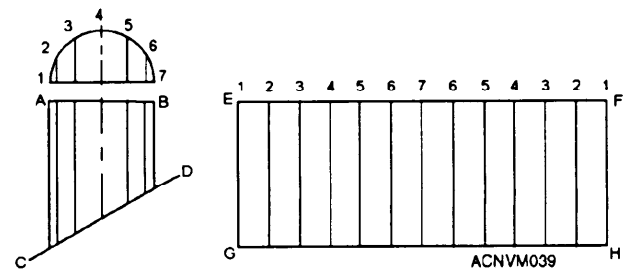

Figure 12-39.—Development of layout for intersected pipe.
3. Set your straightedge at right angles to the center line. With the straightedge as a base line, use the flat steel square to draw lines parallel to the center line by the method shown earlier in figure 12-3. The parallel lines must be drawn from the points where the arcs intersect the circumference of the half-plan to the miter line (fig. 12-39).
To develop your pattern by the use of dividers, follow these step-by step instructions, working from figure 12-39.